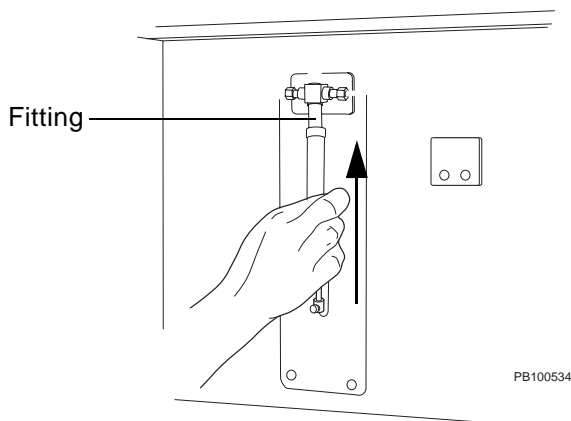

Figure 9-20 Attaching a Syringe to the AFC 2000
1. Mount the new syringe on the plunger shaft and pull up on the syringe body until it reaches the fitting (Figure 9-20).